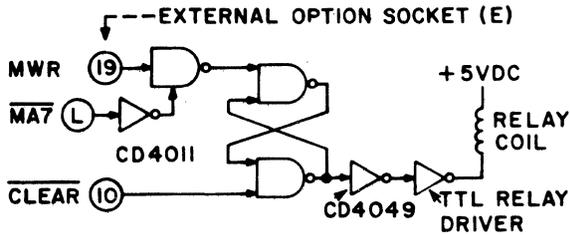

Fig. 4—Output Relay Circuit.
The output circuit of Figure 4 is activated by any instruction that tries to write a byte into any memory location between 80 and FF. If the program is modified so that a byte is stored at M(80) when the display reaches 00, the above external relay will be activated until CL is pressed. This relay could be used to control a flying saucer warning light or solenoid actuated garbage can lid. It cannot be used to control unruly housepets or children.